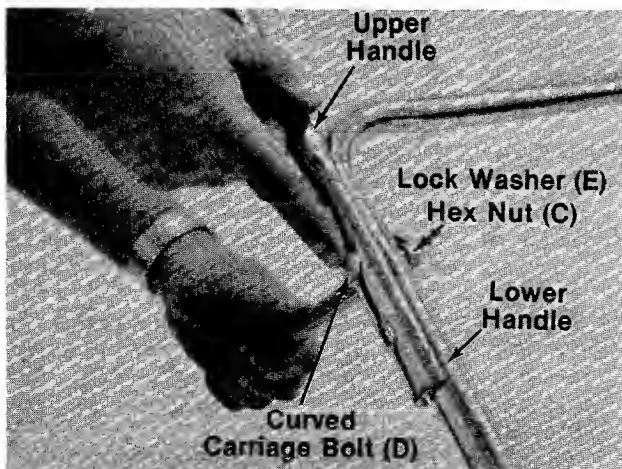
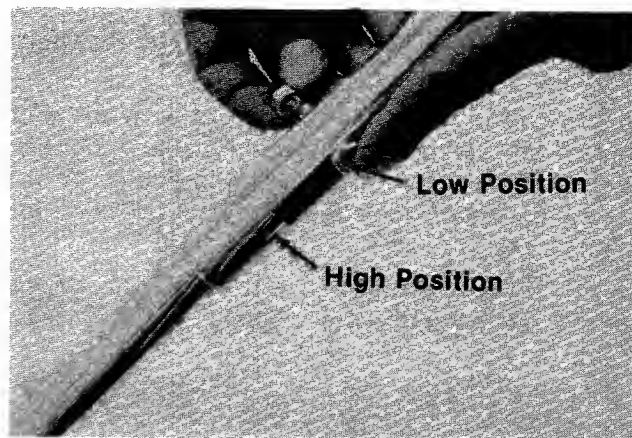

FIGURE 3.
FIGURE 9.
← 4. There are two height positions for the handle. Place upper handle in position over lower handle, selecting hole for either high or low position. Refer to figure 9. Secure with curved carriage bolts (D), lock washers (E) and hex nuts (C) as shown in figure 3.
The upper handle can be adjusted to a high or low position. The adjustment is made by removing the hex nuts, lock washers and curved carriage bolts, and reassembling in the other position. See figure 9.